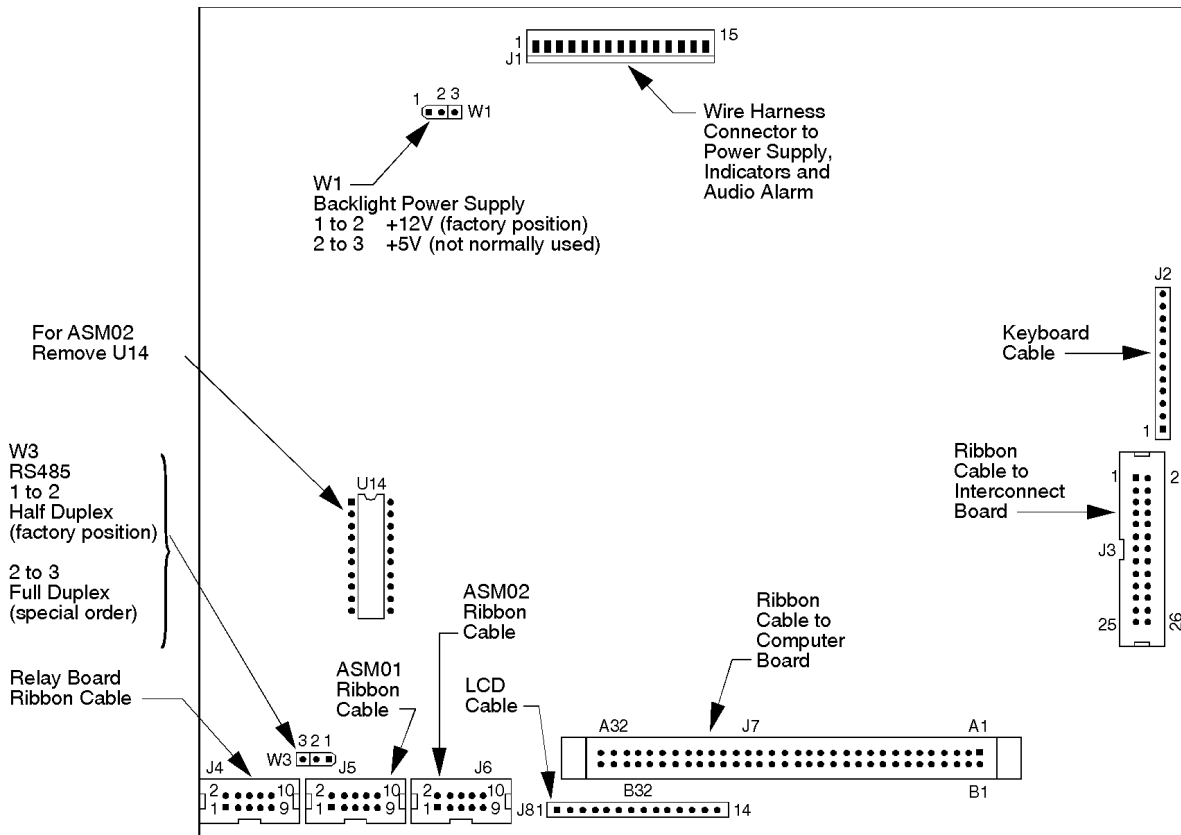

Figure 9.3 ASM1000/ASM1001 Baseboard.
4. Verify that on the ASM Main Board jumpers installed W1 from 1 to 2, W3 from 1 to 2, and that there is no jumper in W2. Refer to Figure 9.3.